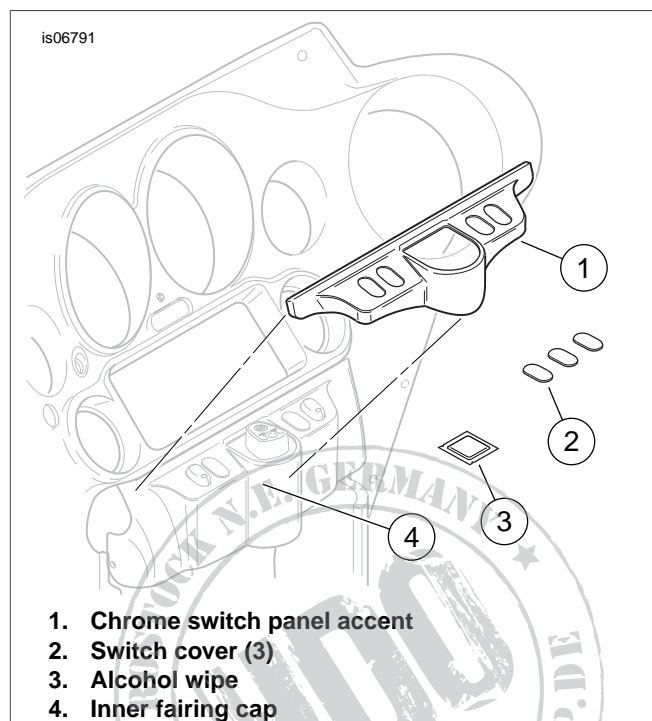

Figure 1. Switch Panel Accent Installation
1. See Figure 1. Get the alcohol wipe (3) from the kit. Open the packet, and use the wipe to thoroughly clean the inner fairing cap (4) top and sides of any dirt or grease.
2. On the back of the chrome accent (1), use a fingernail to rub the liners of the adhesive backing to activate the adhesive. Peel both liners from the adhesive backing of the chrome accent.